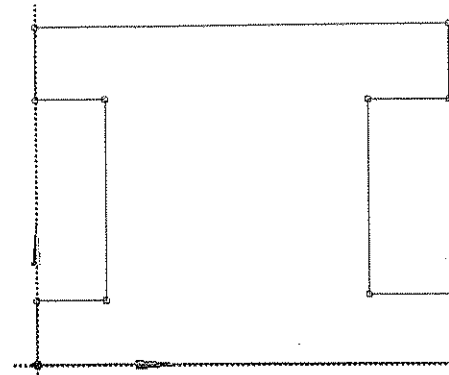

Figure 3-27 The sketch drawn using automatic constraints
15. Similarly, draw all the lines specified in the sketch. The sketch drawn is just a representation of the final sketch to be drawn based on dimensions. The final sketch before applying the constraints and dimensions is shown in Figure 3-27.
1. The sketch shown in Figure 3-27 is just for reference and is not created based on dimensions.
After a sketch for the model is drawn, refer to Figure 3-27, you need to constrain the entities of the sketch to restrict some degrees of freedom.